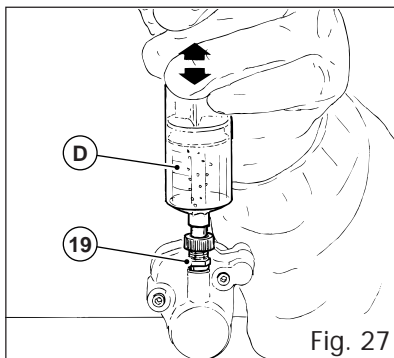

Fig. 27
- Pour the recommended brake fluid into the syringe (D, fig. 27) up to the second mark.
- Position the the caliper vertically and screw the syringe lock ring onto the one way valve (19).
- Bleed off any air in the caliper (you can see the bubbles in the column of fluid in the syringe), then push the plunger down to replace the volume of air displaced with fluid (see fig. 27).
- Add fluid until the two pads (20) touch each other.